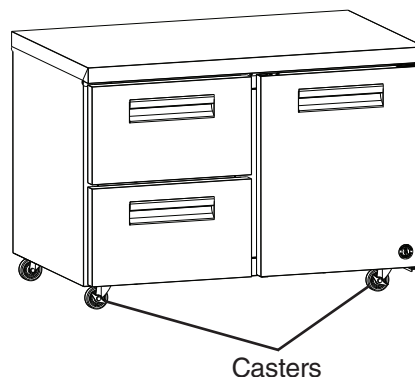

Fig. 15
- 1) Remove all items from the appliance. Make sure the appliance is unplugged from the electrical outlet. Move the appliance out for ease of access then lock the casters. See Fig. 15.